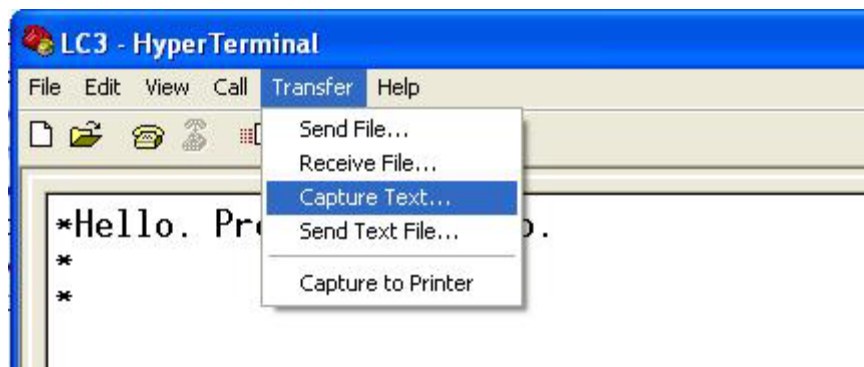

Figure 30 - HyperTerminal Transfer Menu
- 5) Upon confirmation of communication, select Transfer | Capture Text (see Figure 30):